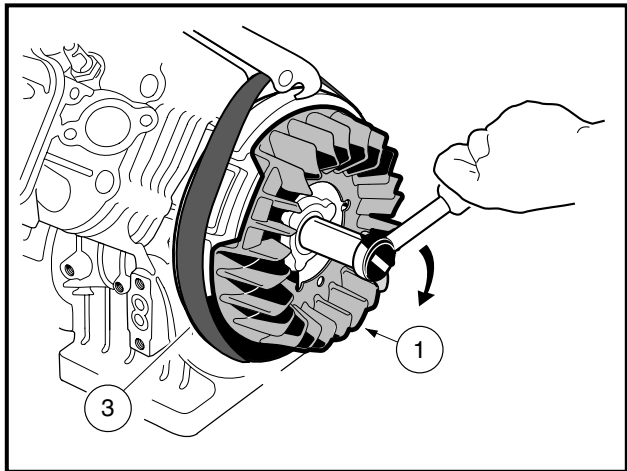

Figure 13-10 Fan and Flywheel Assembly
3. Use a strap wrench (3) to keep the flywheel and fan (1) from turning. Tighten the flywheel nut to 63 ft-lb (85.4 N·m) (**Figure 13-10, Page 13-8**). See following CAUTION.